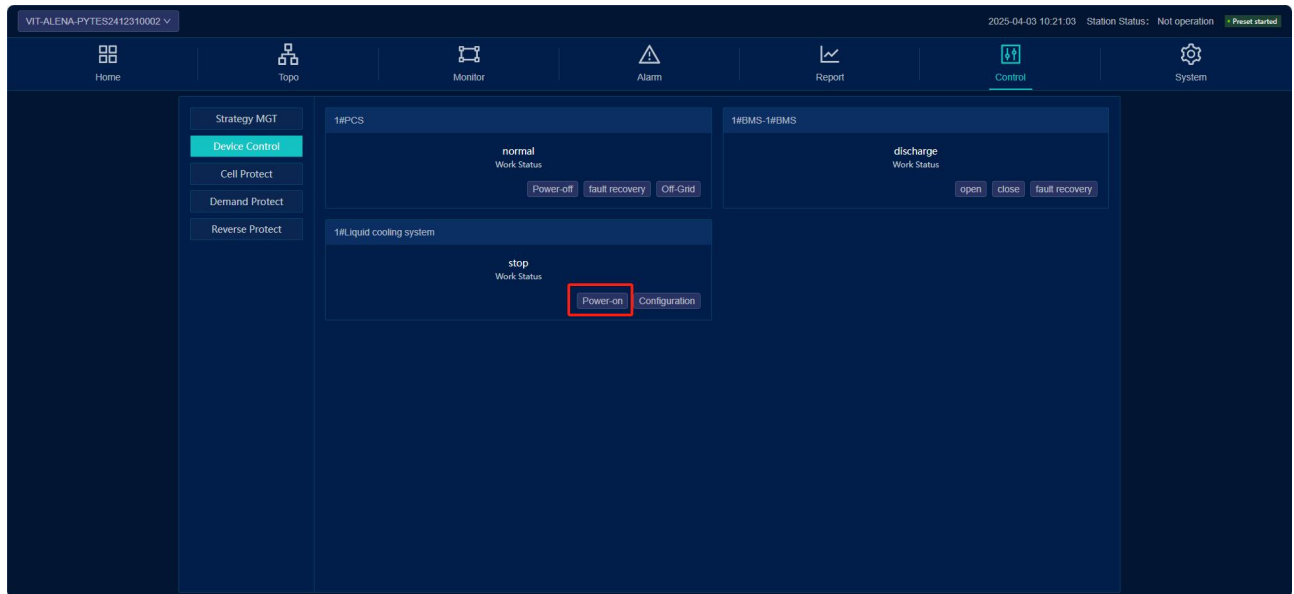

Fig.6.9 The liquid cooler starts
Step 8: Login to the cloud platform and turn on the liquid cooler in "Control Center - Equipment Control - Liquid Cooling Unit", as shown in Figure 6.9.